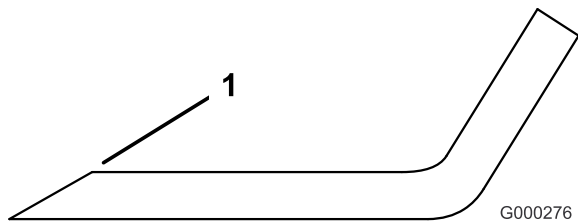

Figure 76
1. Use a file to sharpen the cutting edge at both ends of the blade (Figure 76). Maintain the original angle. The blade retains its balance if the same amount of material is removed from both cutting edges.